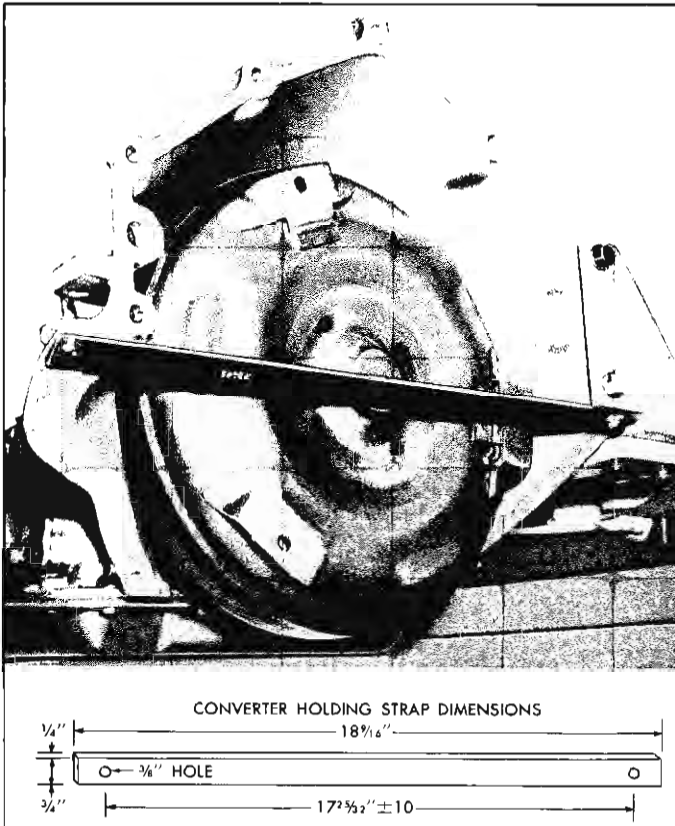

Fig. 5—Converter Holding Tool
**CAUTION:** Keep front of transmission upward to prevent the converter from falling out. Install converter Tool J-9549 (or a similar tool constructed as shown in Figure 5, or, in an emergency, a length of strong wire may be used) immediately after removal from the engine.